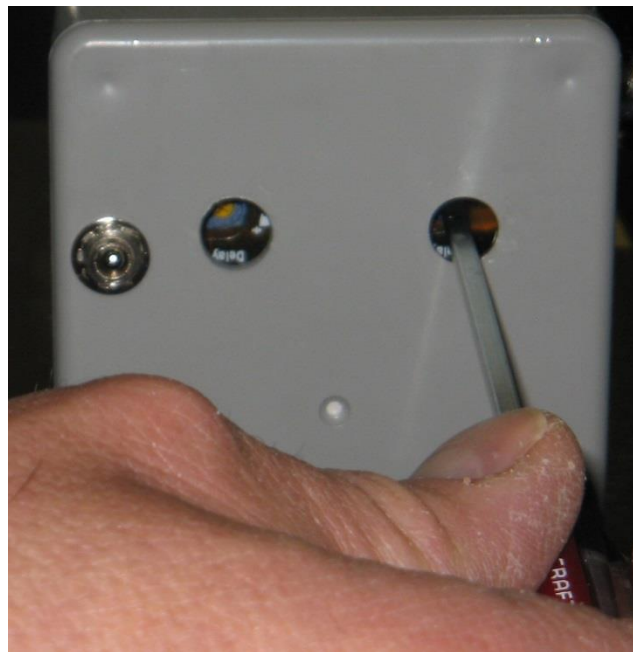

Figure 3.4.2
- Using a small Phillips drive screwdriver adjust the Time Delay relays. **Figure 3.4.2**